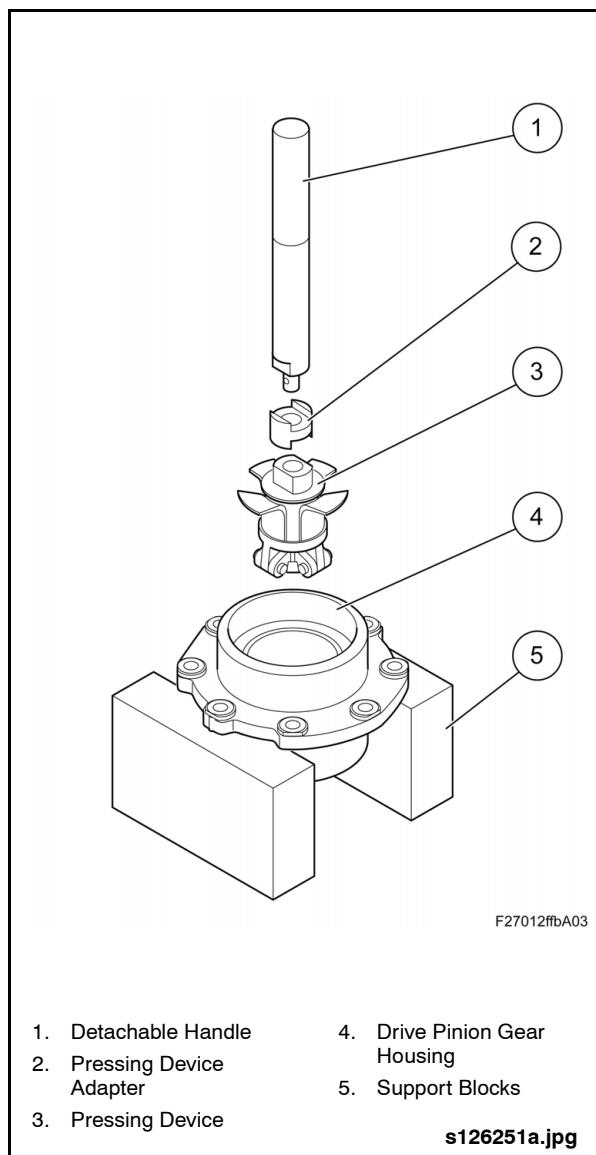

Fig. 2-95: Removing Inner Bearing Outer Race
1. Reposition the drive pinion gear housing on support blocks with the input end facing up. See "Fig. 2-95: Removing Inner Bearing Outer Race" on page 75.